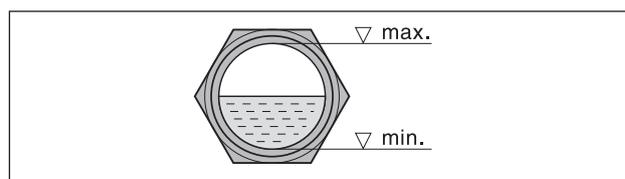

Fig. 4 Oil level
- After correcting the direction of rotation if necessary, start the motor again and stop it again after 2 minutes in order to top missing oil up to the upper edge of the sight glass (Fig. 4/I). This topping up at the filling point (Fig. 2/H) must be repeated until all the oil pipes have been filled completely. The filling point must not be open when the pump is running.